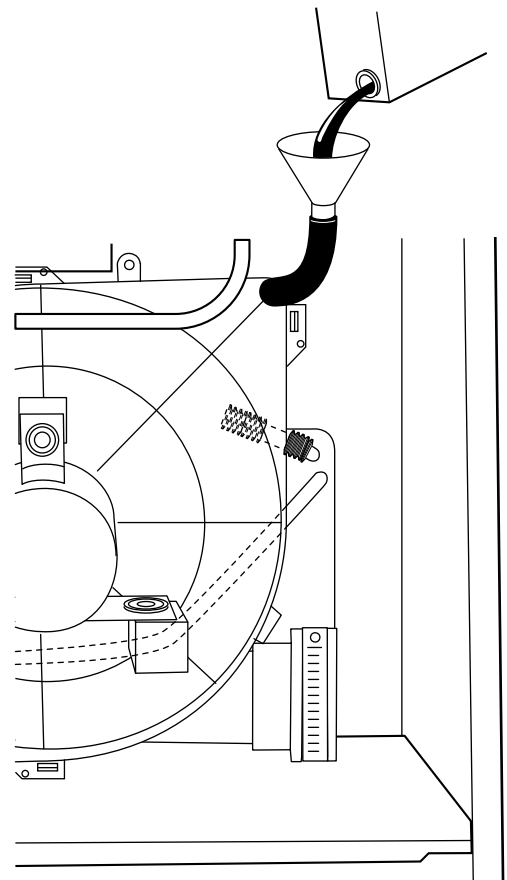

Fig. 43—Filling Condensate Trap
4. Pour 1 quart of water into funnel/tube. Water should run through inducer housing, overflow condensate trap, and flow into open field drain. (See Fig. 43.)